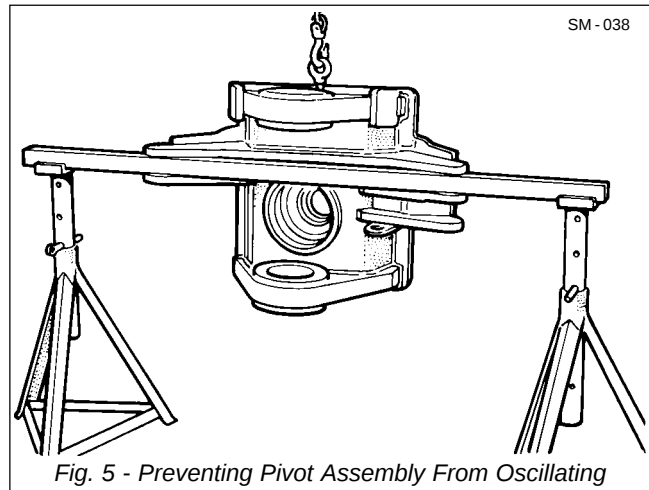

Fig. 5 - Preventing Pivot Assembly From Oscillating
3. Identify the relationship of the driveline caps to brake yoke (18). Remove capscrews, disconnect driveline and secure clear of brake yoke (18).
4. Remove mounting hardware securing parking brake disc to brake yoke (18) and remove brake disc.
5. Place a suitable container under rear brake yoke (18) to catch oil released when pulling brake yoke (18) from driveshaft (14).
6. Remove Rear bolts (19), Lockplate (16) & Rear thrust collar (63). Pull brake yoke (18) from driveshaft (14).
7. Remove adaptor (57), connector (58), elbow (59) and pipe assembly (60) from oscillation hub.
8. Remove bolts (22) and washers (21) securing locking plate (12). Remove locking plate (12).
9. Restrain pivot assembly (1) to prevent it oscillating, by placing a heavy bar between the steering cylinder mountings. Lock the bar in position using suitable trestles or stands. See Fig. 5.
10. Using a suitable tool, remove thrust nut (11). If wear area of thrust nut (11) is damaged, replace thrust nut (11).
11. Insert an M20 eyebolt into tapped pad provided on top of pivot assembly (1) and attach suitable lifting equipment.
13. Using lifting equipment, carefully pull pivot assembly (1) clear of oscillation hub. Place pivot assembly (1) in a suitable work area for further disassembly.
3. Install plug (25) in filler/level hole on pivot assembly (1). Install gasket (5) and cover plate (6) on side of oscillation hub and secure with bolts (7) and washers (20).
4. Install plug (25) in cavity drain port on underside of oscillation hub.
5. Install plugs (28) into oscillation bearing grease ports.
6. Lightly coat 'V' ring (10) and machined surfaces of pivot with Extreme Pressure Multipurpose Grease (26) and, install 'V' ring (10), with lip towards rear, on front of oscillation hub.
7. Using suitable lifting equipment, and taking care to prevent damaging bushes (2) or pivot threads, install pivot assembly (1) into rear frame.
8. Lightly coat 'V' ring (10) and machined surfaces of pivot with Extreme Pressure Multipurpose Grease (26) and, install 'V' ring (10), with lip towards front, on rear of oscillation hub.
- 9 . a) Restrain pivot assembly (1) to prevent it oscillating, by placing a heavy bar between the steering cylinder mountings. Lock the bar in position using suitable trestles or stands. See Fig. 5.
b) Secure a suitable tool to pivot thrust nut (11) and tighten thrust nut (11) until there is no end float/ clearance at thrust face of either bush. Slacken thrust nut (11) until pin of the locking plate (12) can be inserted in the first available hole in the thrust nut (11).
c) Secure locking plate (12) with bolts (22) and lockwashers (21). Torque tighten bolts (22) to 94 Nm (69 lbf ft).
10. Install adaptor (57), connector (58), elbow (59) and pipe assembly (60) to oscillation hub.
11. Install brake yoke (18) on driveshaft (14) until it butts against bearing assembly cup and cone (8 & 9).
12. Install parking brake disc on brake yoke (18) and secure with bolts, washers and nuts. Tighten bolts to a torque of 73 Nm (54 lbf ft).
13. Install rear of driveshaft (14).
14. install Brake yoke (18) , Rear thrust collar (63) ensuring 'O'-rings (29& 51) are in place , shim pack (64) and bolts (19).
15. Lock off Brake yoke flange as before (18) with suitable clamping method. Torque bolts (19) to 73 Nm (lbf ft)
16. Take a magnetic clock gauge located on the flange of pivot casing, needle acting on Rear thrust collar (63) end face. Check Brake yoke (18) float movement. Ensure still within range 0.05mm - 0.15mm (0.002" - 0.006").
17. If float is incorrect, alter arrangement of shim pack (64) to bring within size.